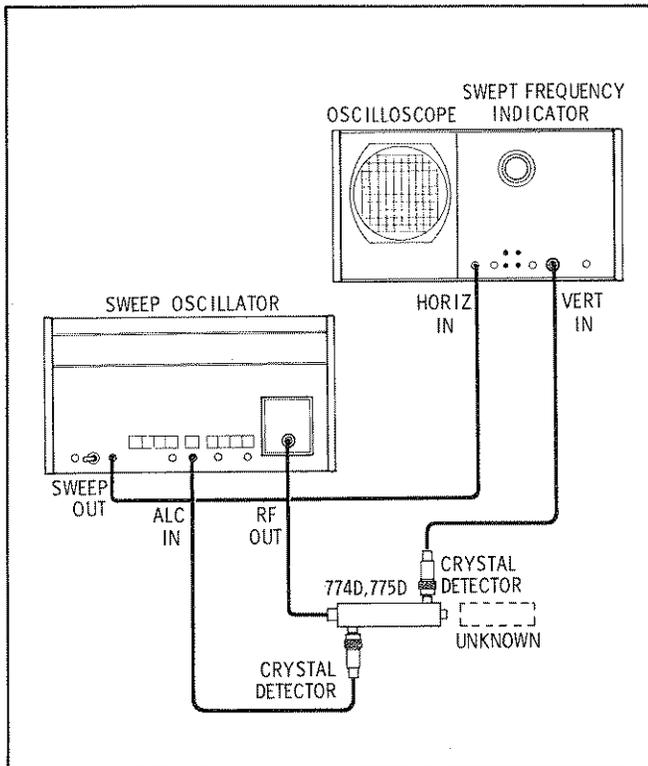
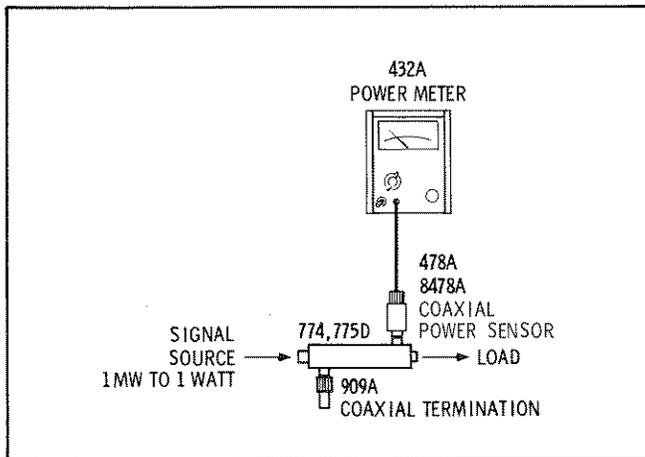

Figure 3. Typical Reflectometry Setup
Figure 6. Power Measuring Setup
These couplers are usually used in a reflectometer. Figures 3, 4, 5, and 6 illustrate typical setups. Note that a line stretcher (or a longer length of cable) must be used with vector voltmeters or network analyzers to balance the two signal paths in the coupler for zero phase reference.
**Complementary Equipment.** Figures 3, 4, 5 and 6 show Hewlett-Packard model numbers for equipment suitable for use with the 774D/775D couplers.
The 774D and 775D may also be used for measuring power as shown in Figure 6. Here the coupler samples primary-line power and a coaxial thermistor mount is used as a power-detecting device. The coupler can also be used for measuring peak power up to 10 kW, provided average power remains below the rating of the coupler (50 watts) and the sampled pulses are attenuated to the power-handling capability of the thermistor mount.
The couplers can be used not only for power measurement, but for system adjustment for best power transfer as well. This adjustment can be made easily with the setups of Figures 3, 4, or 5. This adjustment can also be made with only a power meter and a coupler. Alternately connect the thermistor mount first to the incident auxiliary arm and then to the reflected auxiliary arm. Connect first as shown in Figure 6. Take a reading, then interchange the thermistor mount and the load and take another reading. Adjust the system for a maximum incident/reflected power ratio.
The 774D and 775D can also be used for power leveling, if a single directional coupler is not available. Connect as shown in the left half of Figure 3. Terminate the unused auxiliary arm with a 50-ohm termination.